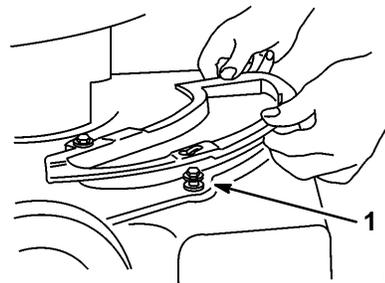

Figure 43
4. Slide the cover plate over the shoulder bolts (Fig. 43).